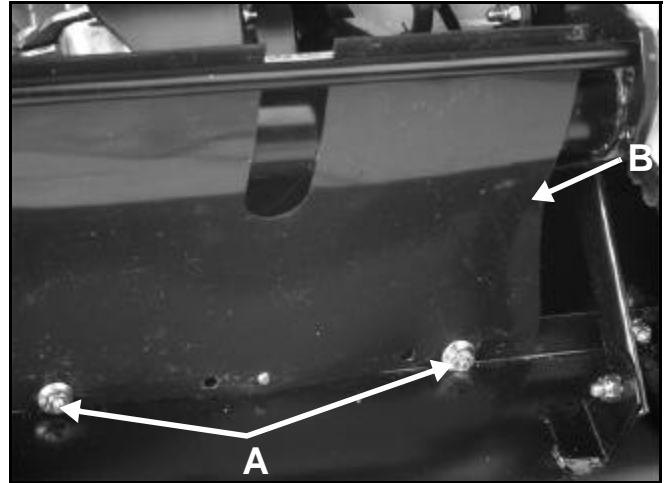

Figure 146 1854-05
9. Remove the two nuts on the lower black cover (Figure 146).